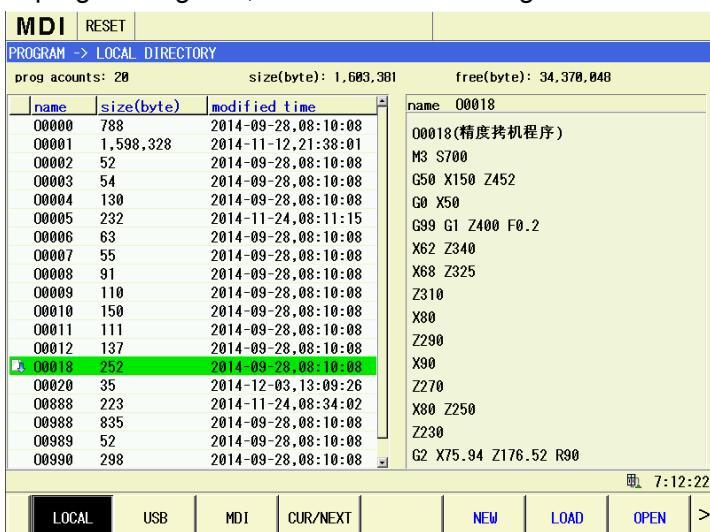

Fig.6-1
- (1) Press  function key to enter the program page set.
- (2) On the program page set, press , ,  and  keys to move the cursor to select the program name. Or press  key to search the program name to run, the base color of the selected program is green, which is shown as Fig. 6-1: